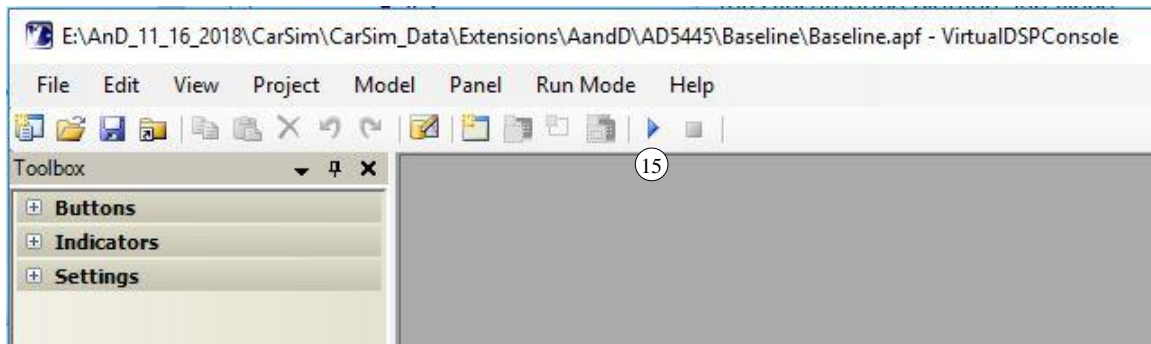
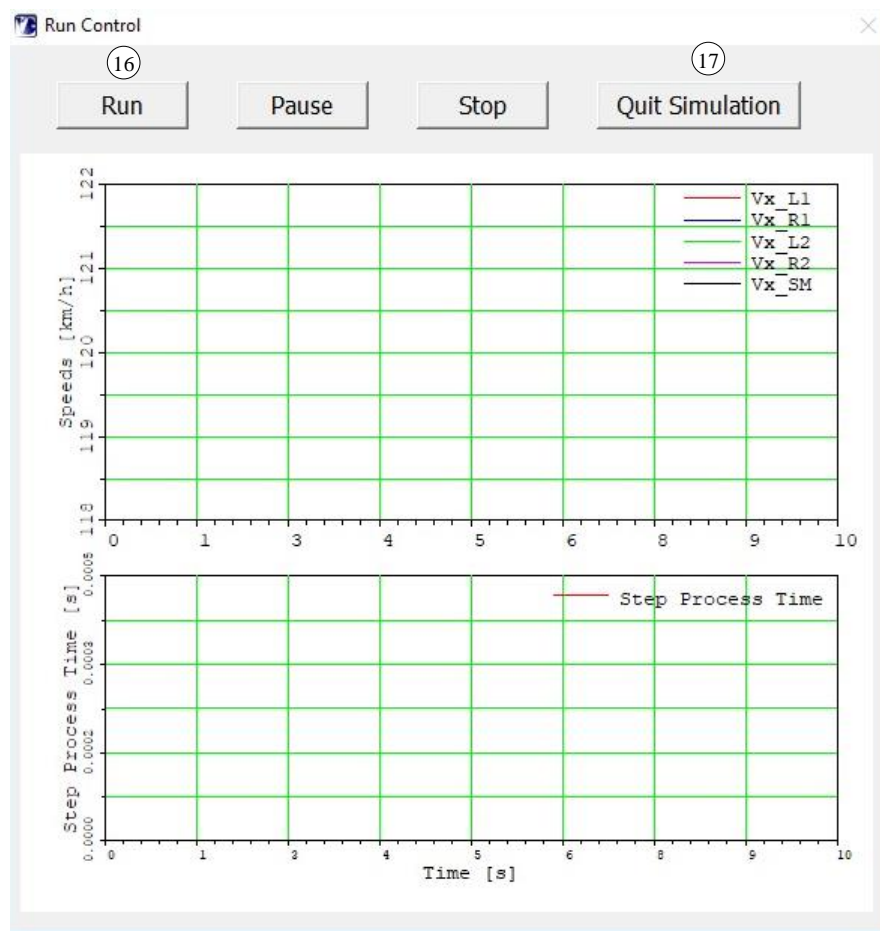
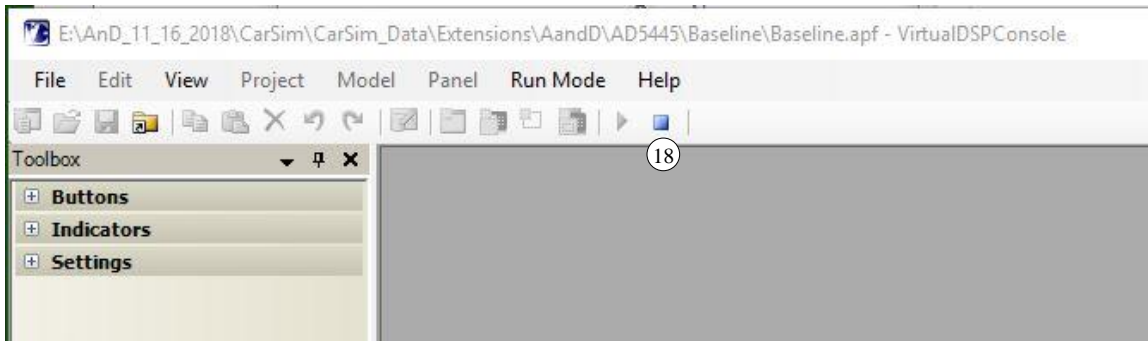

Figure 16. VirtualDSPConsole toolbar.
Figure 17. Run Control window.
Figure 18. VirtualDSPConsole toolbar.
3. Click on the blue arrow in the VirtualDSPConsole window tool bar (15) (Figure 16) to open the Run Control window (Figure 17).
4. Click **Run** in the Run Control window (16) to start the simulation. You can press **Run** to re-run the simulation as many times as you wish. You can also press **Pause** or **Stop** during the simulation.
5. When you are done running the simulation, click **Quit Simulation** in the Run Control window (17) or click on the blue square in the VirtualDSPConsole toolbar (18) (Figure 18) to stop run mode. The Run Control Window will close.